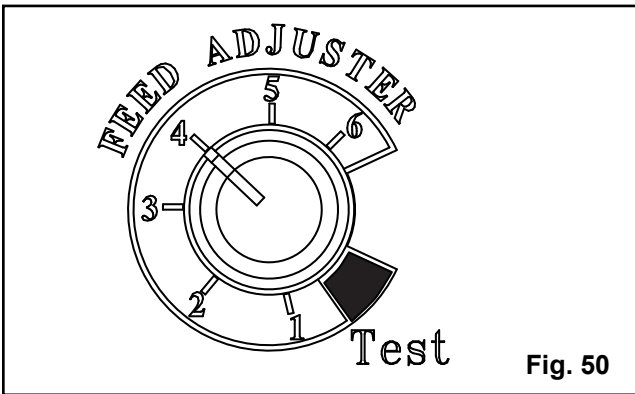

Fig. 50
5. **Turn Feed Adjuster to #4.** If this is your first fire, or you are trying different pellets, set the feed adjuster to #4, Fig. 50. This is a conservative number and will probably need to be increased if maximum BTU output is desired. After you know a feed rate setting that works well for your application, use that setting. Remember, if your feed rate is too high you may waste fuel due to overshooting the Wall Control setting.